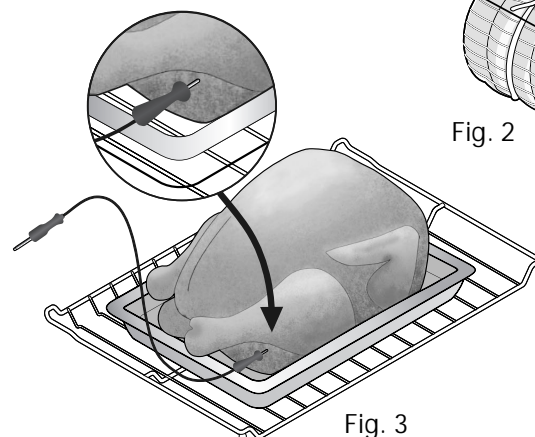

Fig. 3
- For whole poultry or turkey, insert the probe sensor into the thickest part of inner thigh, just below the leg (See Fig. 3).